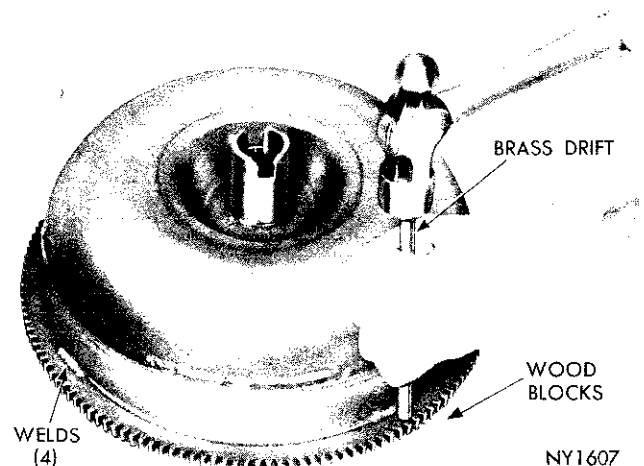

Fig. 49—Removing Starter Ring Gear
(1) Cut through the weld material at the rear side of ring gear with a hack saw or grinding wheel (Fig. 49). Be careful not to cut or grind into the front cover stamping.
(2) Scribe a heavy line on the front cover next to the front face of the ring gear to aid in locating the new gear.
(3) Support the converter with the four lug faces resting on blocks of wood. **The converter must not rest on the front cover hub during this operation.** Using a blunt chisel or drift and hammer, tap downward on the ring gear near the welded areas to break any remaining weld material (Fig. 49). Tap around